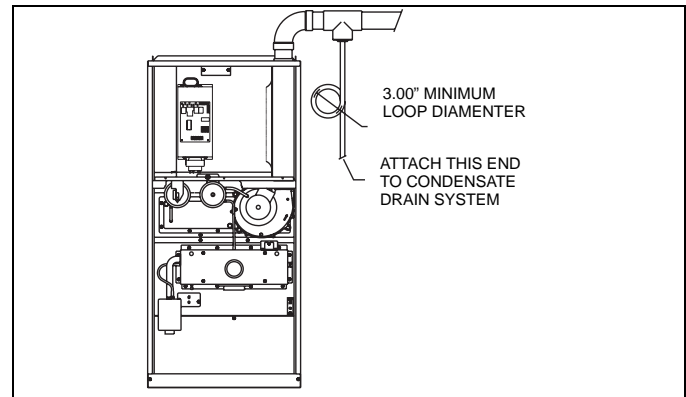
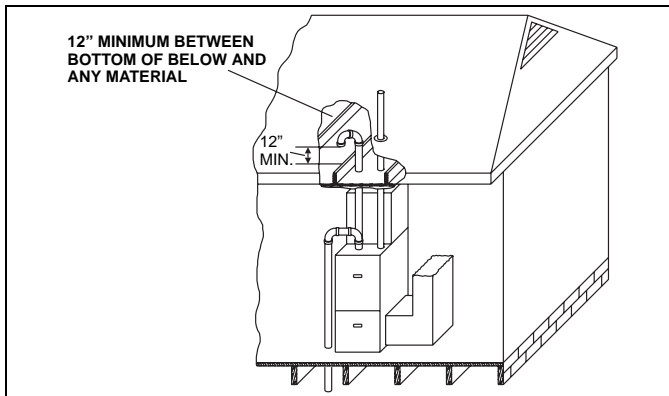

FIGURE 17: Horizontal Vent Drain
FIGURE 26: Attic Combustion Air Termination
2. **AMBIENT COMBUSTION AIR:** Combustion air is supplied from the area surrounding the furnace through vents or knockouts in the furnace casing. The combustion air and the vent pipes are not terminated in the same atmospheric zone. Refer to Figures 17 & 21 for vent terminations. Refer to "AIR SOURCE FROM INSIDE THE BUILDING" and "VENT AND SUPPLY AIR SAFETY CHECK" for proper installation.
3. **VENTILATED COMBUSTION AIR:** Combustion air is supplied through a PVC or ABS pipe that is connected to the PVC coupling attached to the burner box and is terminated in a ventilated attic or crawl space. The combustion air and the vent pipes are not terminated in the same atmospheric zone. Refer to Figures 17 & 21 for vent terminations and Figure 26 for attic termination. Only the combustion air intake may terminate in the attic. The vent must terminate outside.